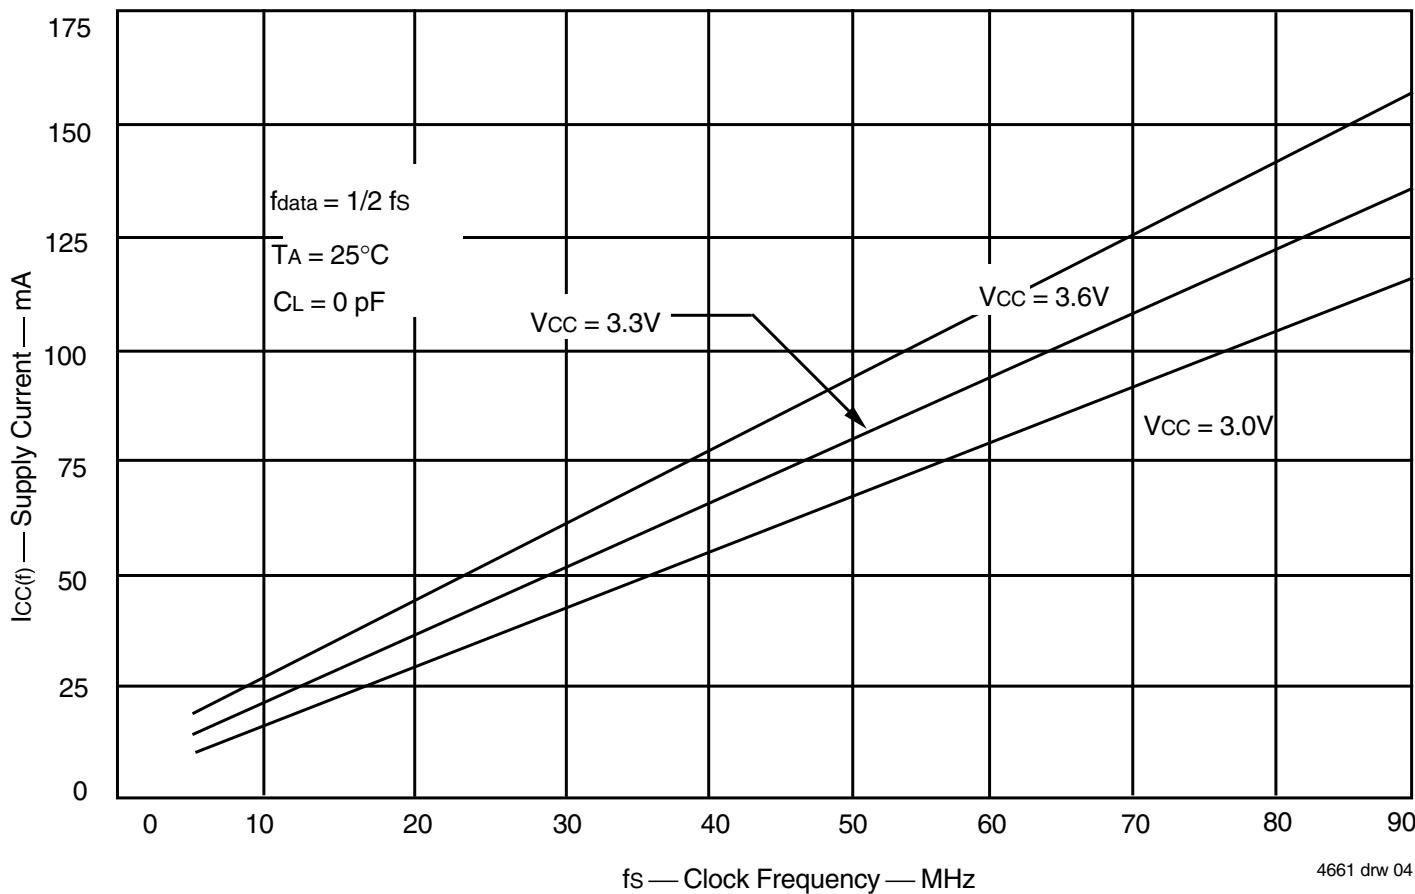

Figure 1. Typical Characteristics: Supply Current (I_{CC}) vs Clock Frequency (fs)
2. For additional I_{CC} information, see Figure 1, *Typical Characteristics: Supply Current (I_{CC}) vs. Clock Frequency (f_S)*.
The $I_{CC(f)}$ current for the graph in Figure 1 was taken while simultaneously reading and writing the FIFO on the IDT72V3613 with CLKA and CLKB set to fs. All data inputs and data outputs change state during each clock cycle to consume the highest supply current. Data outputs were disconnected to normalize the graph to a zero-capacitance load. Once the capacitive lead per data-output channel is known, the power dissipation can be calculated with the equation below.
With $I_{CC(f)}$ taken from Figure 1, the maximum power dissipation (PT) of the IDT72V3613 may be calculated by: